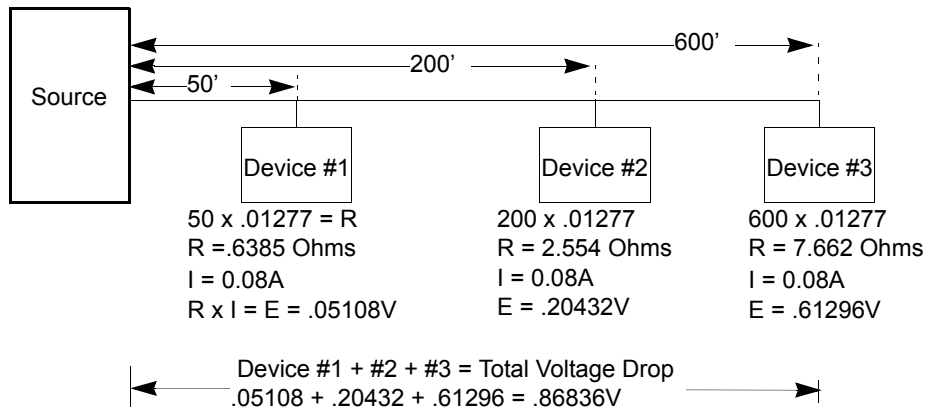

Figure 2.4: Calculation of Voltage Drop
An installation uses 18 AWG wire to connect three readers to the iSTAR controller. Each reader draws 0.08 amps. The readers are laid out with distances as shown in Figure 2.4.
2. See Figure 2.4 for an illustration of the calculations.